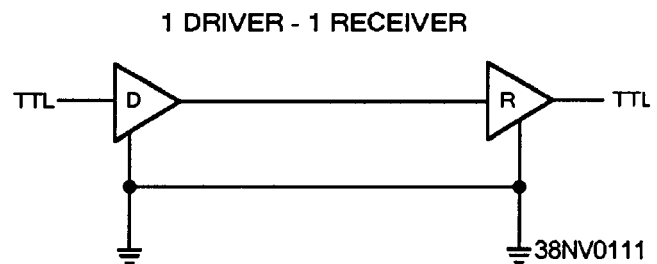

Figure 4-36.—Example of a single-ended line driver and receiver.
- **Single-ended line drivers and receivers** — Single-ended line drivers and receivers (fig. 4-36) are used for short distances. They have a single input and output at both the transmitting and receiving end. They are usually wire cables, possibly with an outer shield connected to ground. They are used for local transmission to external equipments (including computers) and for remote communications with modems.